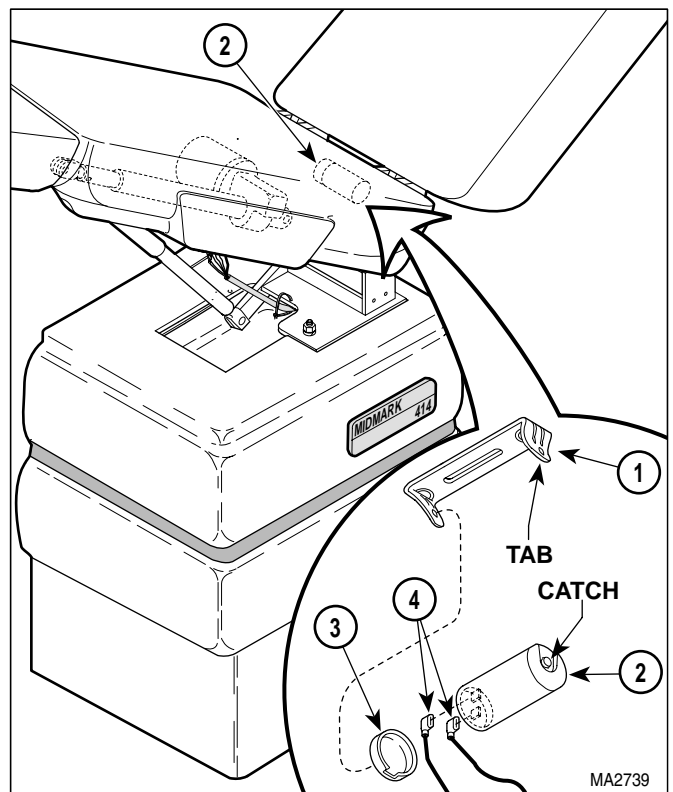

Figure 4-22. Foot Capacitor Removal / Installation
- (2) Unplug power cord from wall outlet.
- (3) Using a screwdriver, pry tab of mounting bracket (1, Figure 4-22) outward and separate foot capacitor (2) from mounting bracket.
- (4) Remove capacitor cap (3) from foot capacitor (2).